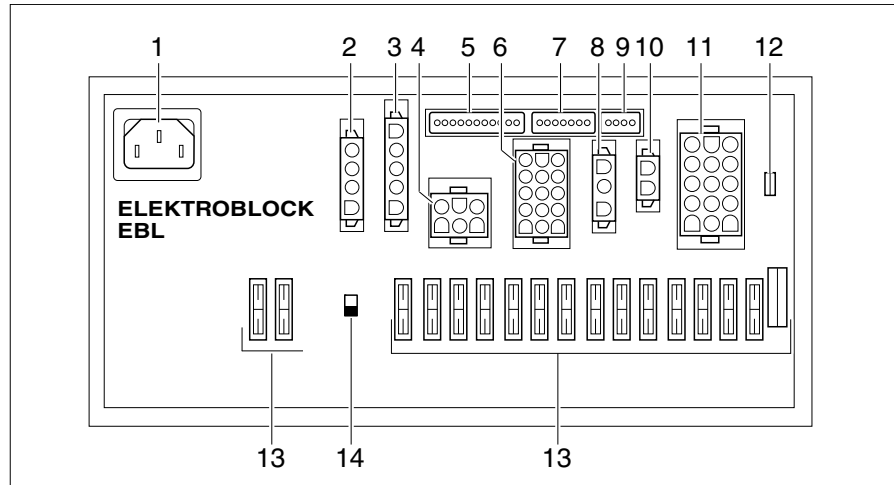

Fig. 256 Transformer/rectifier (EBL 102)
Location Depending on the model, the transformer/rectifier (Fig. 256) is installed in the seat console under the driver's seat or in the garage or bar seating group (Globe-line).
- ▷ The battery cut-off switch (Fig. 256,14) disconnects all the appliances that are connected to the transformer/rectifier from the 12 V network.